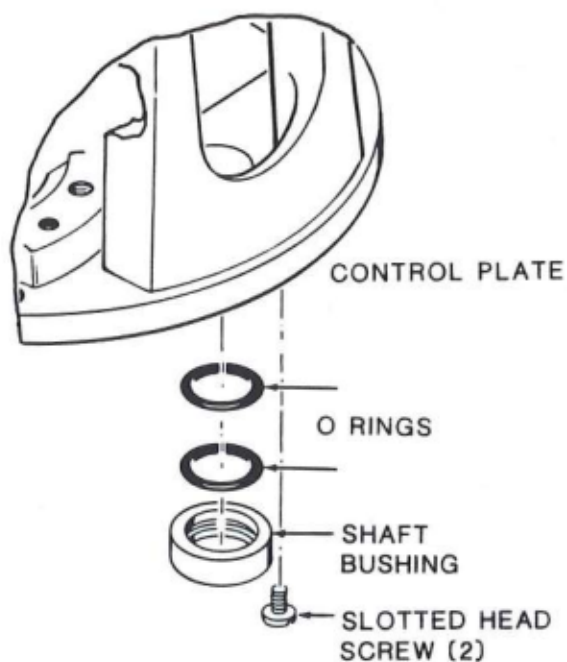

Figure 2-13. Upper Shaft Seals
- 1). Invert the control plate (606).
- 2). Remove the two slotted head screws and two brass washers that hold the shaft seal bushing to the control plate (see Figure 2-13).
- 1). Invert the control plate (606). Insert two new O-rings into the shaft seal bushing (see Figure 2-13). Affix the shaft seal bushing assembly to the underside of the control plate with two slotted head screws and two brass washers.